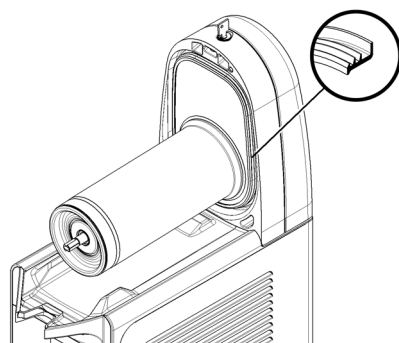

figure 10
N.B. the rim with the greater diameter must be rested on the rear wall (see figure 10).